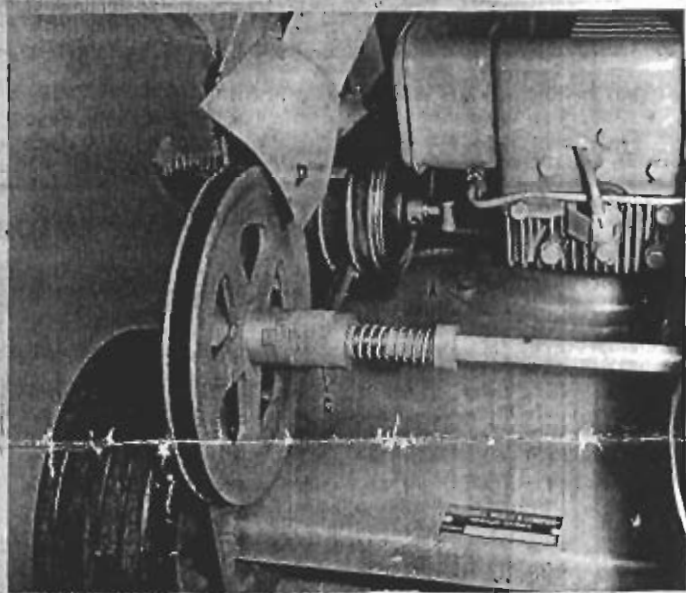

FIGURE 1
*Operation of Manual Clutch* For ease in moving this mower about when engine is not running, the mower has been provided with a manual clutch. For demonstrating mower, disengage manual clutch ("C" Fig. 1) by pulling the clutch collar ("C" Fig. 1.) away from pulley and rotate collar 1/4 turn to lock clutch in disengaged position. For operation, manual clutch ("C") must be engaged in order to propel unit.
1. Variable Speed Transmission Must Be Lubricated Before Using. The transmission is lubricated by raising the spring cap on oil cup (located underneath the left rear fender) and filling cup with SAE 30 oil. This oil is the same as that used in the crankcase. See Item "A" Fig. 1 for location.